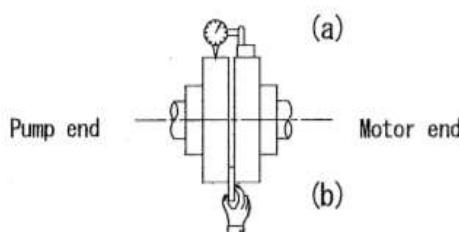

Fig.1 Check with dial indicator and thickness gauge
- For measurement on the shaft coupling periphery, a dial indicator is fixed, as shown in Fig.1 (a), on the motor end coupling periphery, and the pump end coupling is given one complete turning, and in this case the half value of reading is taken as the measurement value, which must comply with the value in Table 1.
- For comparing the distance between the faces at four points using a thickness gauge, as shown in Fig.1 (b), the shaft is given one complete revolution by hand, and the difference between maximum and minimum readings is taken as the value of measurement, which must comply with the value in Table 1.